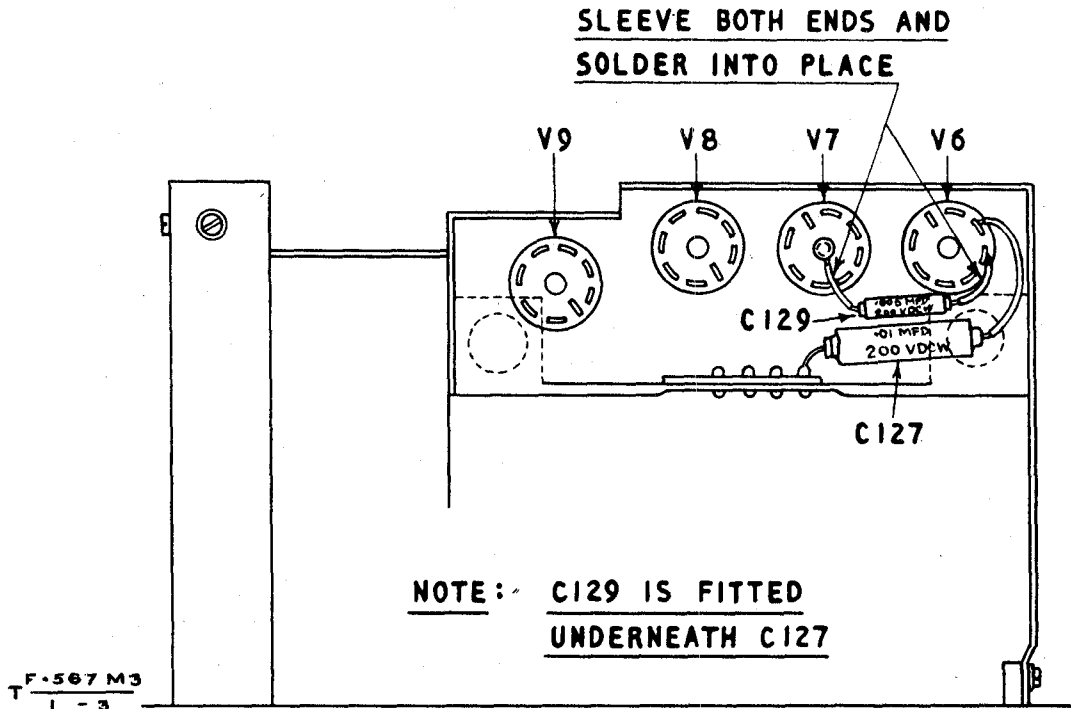

Fig 3 - Capacitor C129 in position
- (e) Place the other capacitor Z/Z 115626 supplied, into the space vacated by C111 and connect it between pin 3 of the valve holder V6 and the earthed spigot of the valve holder V7, after cutting each of the leads of the new capacitor to a suitable length and insulating it with 1.1/2 mm yellow sleeving. This new capacitor becomes 'C129' (see Fig 3).
- (m) Strike through the figure 3 on the modification record plate.